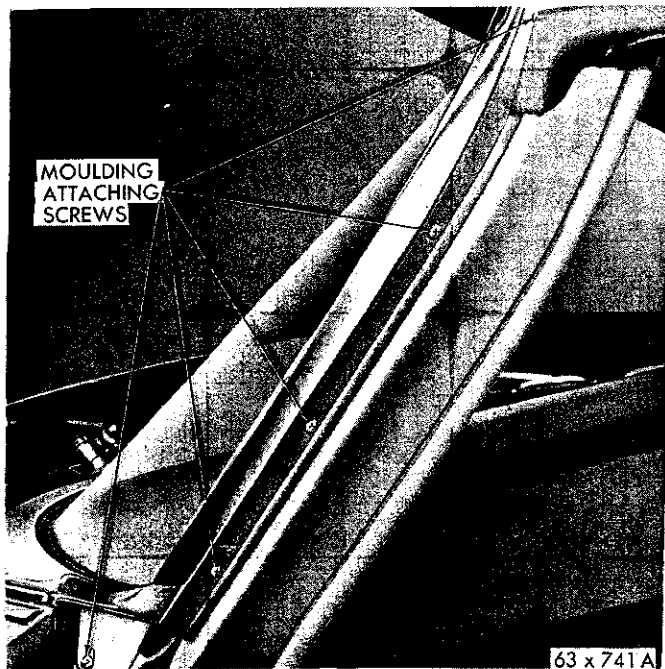

Fig. 54—"A" Post Moulding Attachment
- (1) Cover the adjacent cowl, hood and fender area with a protective covering.
- (2) Disengage the "A" post side mounting screws from the moulding (Fig. 54).